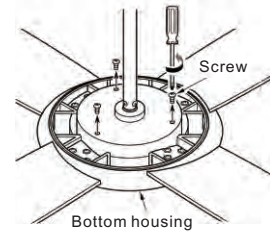

Fig.10
Step 4: **Remove the 3 screws on motor (Fig.10).**